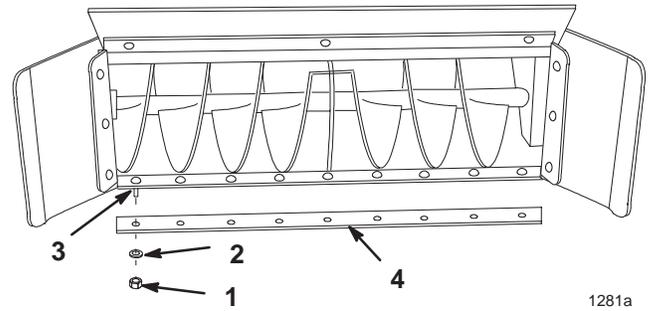

Figure 35
3. Remove the nuts, washers, carriage bolts, and scraper blade (Fig. 35).
4. Reverse the scraper blade and install it with previously removed hardware (Fig. 35).